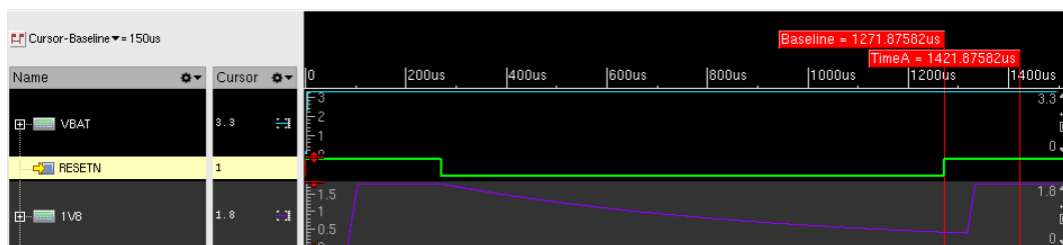

Figure 7. Typical Timing Diagram for Reset Sequence
**Note:** Since RESETN is pulled-up internally, RESETN does not need to be held low after VBAT is established, as shown in Figure 7 \(on page 27\). There is no timing condition between RESETN and VBAT.